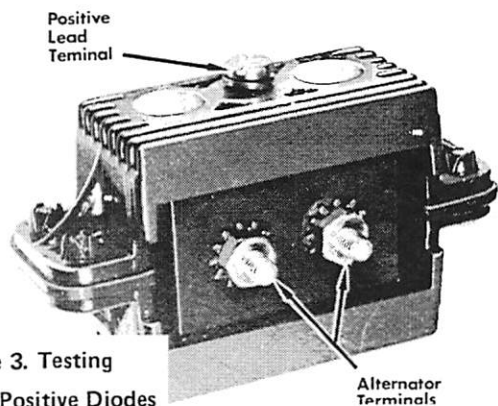

Figure 3. Testing
- a. Connect small red test lead to either alternator terminal and connect black lead to positive terminal of rectifier. (Figure 3) Meter pointer should move to right of Scale 3.